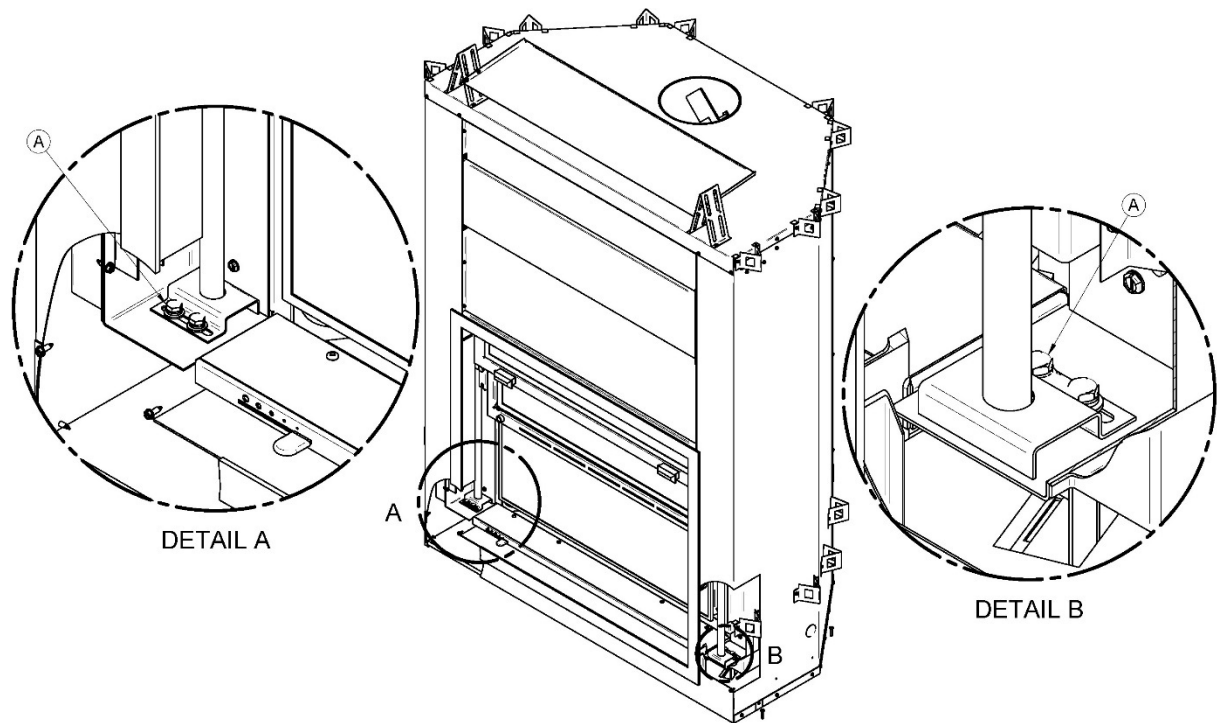

Figure 29
3. Unscrew the two bolts (A) which are located on the lower left of the door (See Figure 29).
2. Unscrew one of the two bolts (A) which are located on the lower right of the screen door (See Figure 29).